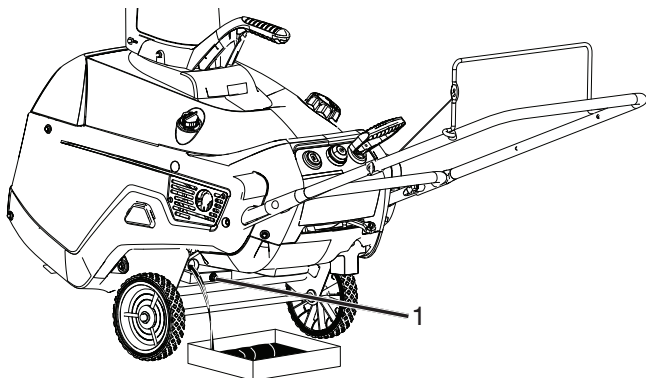

Figure 23
4. Place an oil drain pan under the oil drain plug and remove the oil drain plug. Tip the snowthrower backward and drain the used oil in the oil drain pan (Figure 23).